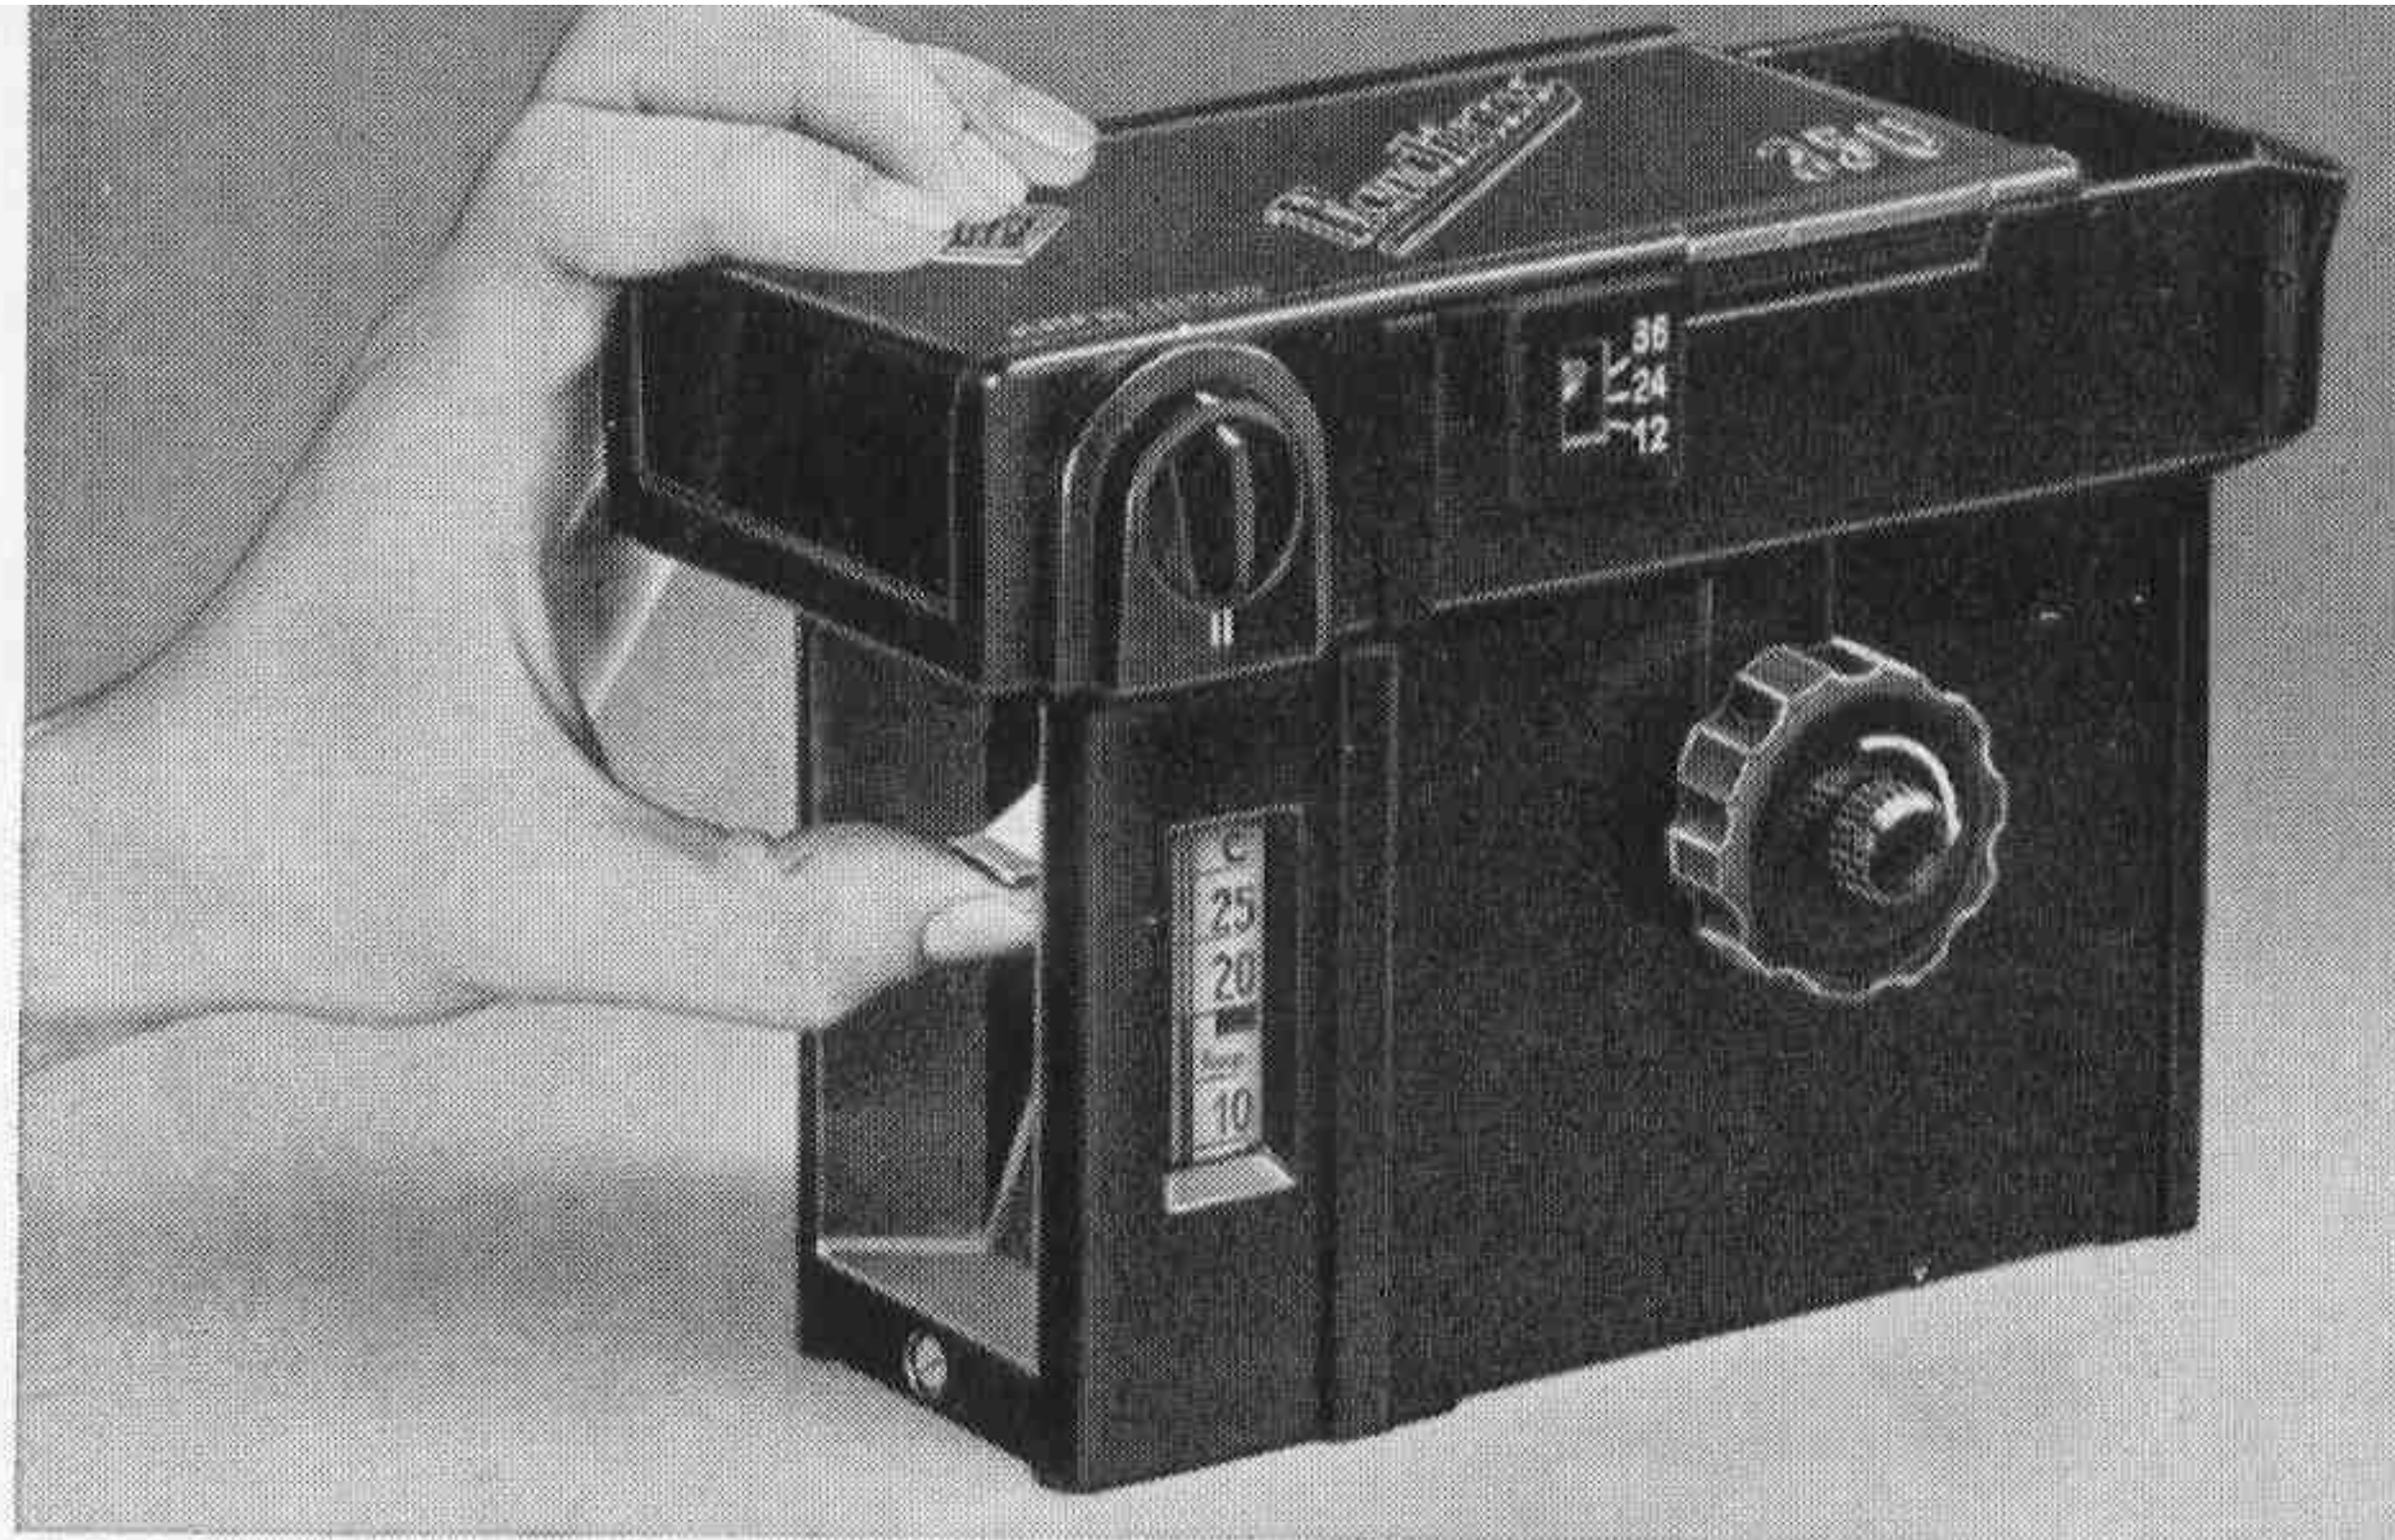

Fig. 7
As soon as a considerable resistance to winding is felt, **stop turning the knob immediately**, as this indicates that the complete film has been wound on to the drum. In the case of a 36-exposure miniature film this indicator (7) (see Fig. 1) will read 36. The film must then be severed from the empty cassette by pressing the cutting lever hard upwards to a definite stop (see Fig. 7).